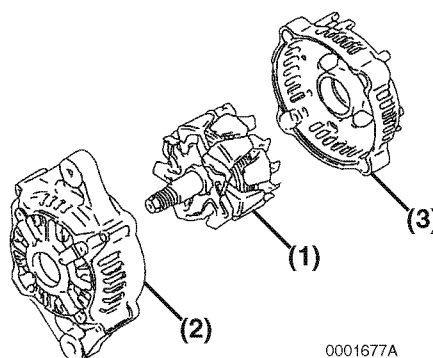

Figure 11-29
4. Lubricate the shaft of the rotor assembly (**Figure 11-29, (1)**). Press the rotor assembly into the front frame housing (**Figure 11-29, (2)**) and rear frame housing (**Figure 11-29, (3)**).